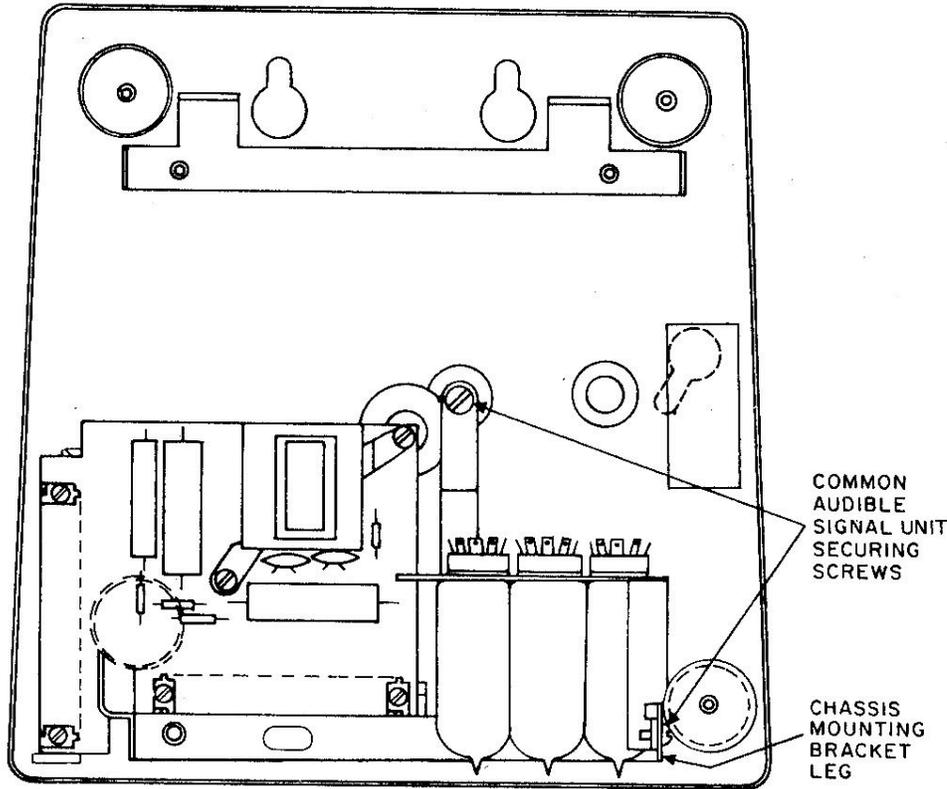

Figure 24. Common Audible Signal Unit Installation.
- (1) Remove the telephone set housing as instructed in Paragraph 7.07 or 7.08, as applicable.
- (2) Disconnect the common audible signal unit leads from the terminal board.
- (3) Raise the telephone set chassis as instructed in Paragraph 7.11.
- (4) Remove the two common audible signal unit securing screws (Figure 24).
- (5) Lift the common audible signal unit out of the telephone set base and carefully pull the wires free of the telephone set.
- (2) Raise the telephone set chassis as instructed in Paragraph 7.11.
- (3) Place the D-56613-A common audible signal unit in the telephone set base as shown in Figure 24. Fasten it in place with the two securing screws supplied with it.
- (4) Thread the common audible signal unit leads up through the chassis to the terminal board.
- (5) Lower the telephone set chassis as instructed in Paragraph 7.12.
- (6) Connect the common audible signal unit leads to the terminal board terminals as shown in Table 1 for the type of the central office ringing generator connection involved.
- (7) Reinstall the telephone set housing as instructed in Paragraph 7.09 or 7.10, as applicable.